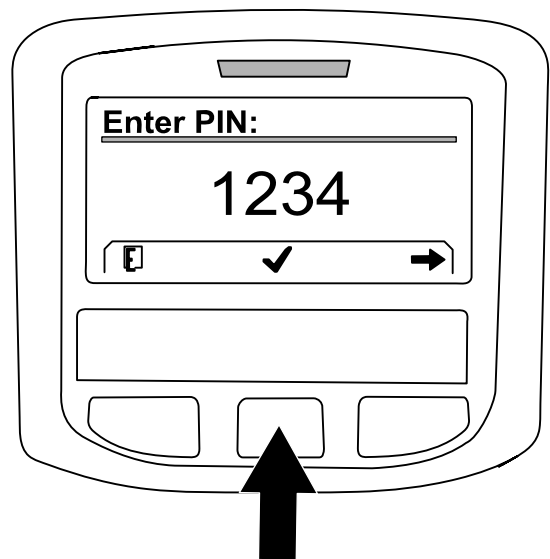
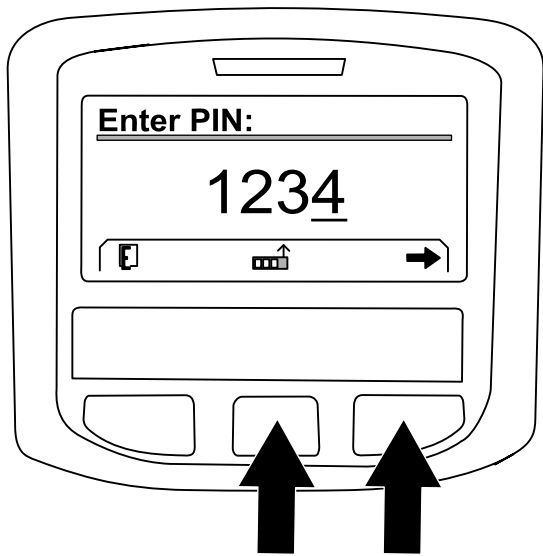

Figure 231
Figure 230
- A. Press the center button as needed to enter the PIN code number for the left position (Figure 230).
- B. Press the right button to navigate to the next PIN code number position (Figure 230).
- D. When all the PIN code numbers are entered press the right button (Figure 230) and then press the center button to enter the PIN code (Figure 231).